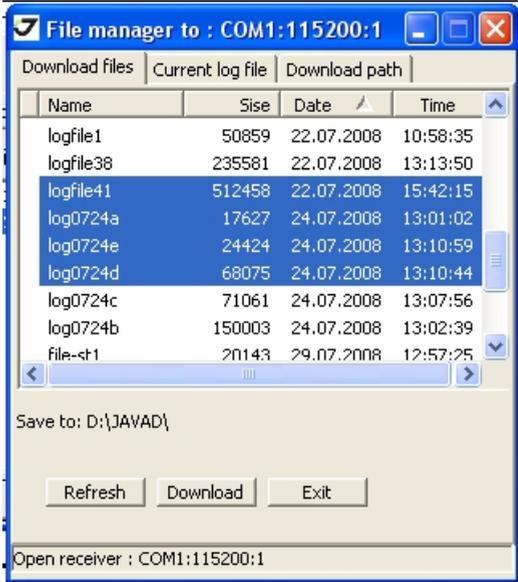

Figure 5-3. Download Files
- 5. Click the *Download files* tab and select the file(s) to download (Figure 5-3).